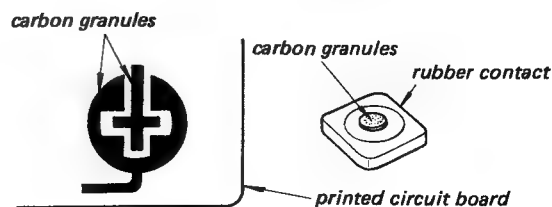

Fig. 2
3. If the resistance value indicates more than 1 k-ohm, remove the lower case to take off the push button switch board. Then, clean the contact piece with a denatured-alcohol-moistened swab as shown in Fig. 2.